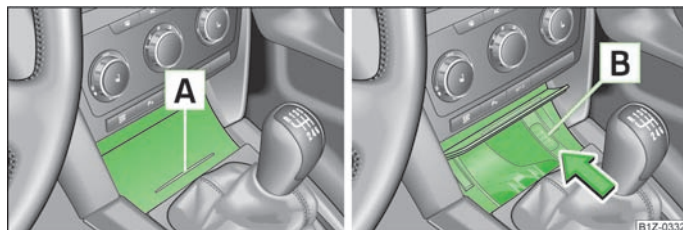

Fig. 64 Centre console: Opening the ashtray/ashtray insert
- › Press on the bottom part of the cover of the ashtray in area **A** » Fig. 64.
- › Press on the ashtray insert in the region **B** » Fig. 64 (the insert comes out) and take it out.